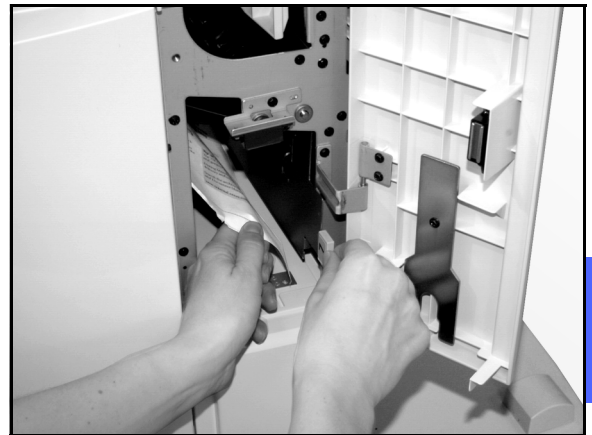

**Figure 4: Behind the Left Front Door**
1. Open the Left Front Door (Figure 4).
2. Push the green handle (5) down, as illustrated in Figure 4, to release the baffle. Rotate the knob (6) to release any jammed paper.